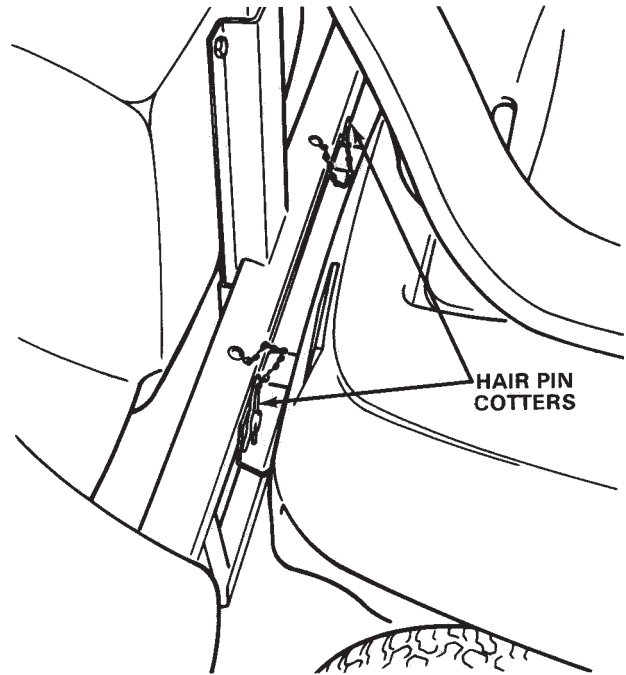

Figure 7
2. Rotate grass catcher up so mounting pins line up with mounting holes in tractor mounting bracket or rider stand bars. Push pins through holes and retain with hairpin cotters (Fig. 7).